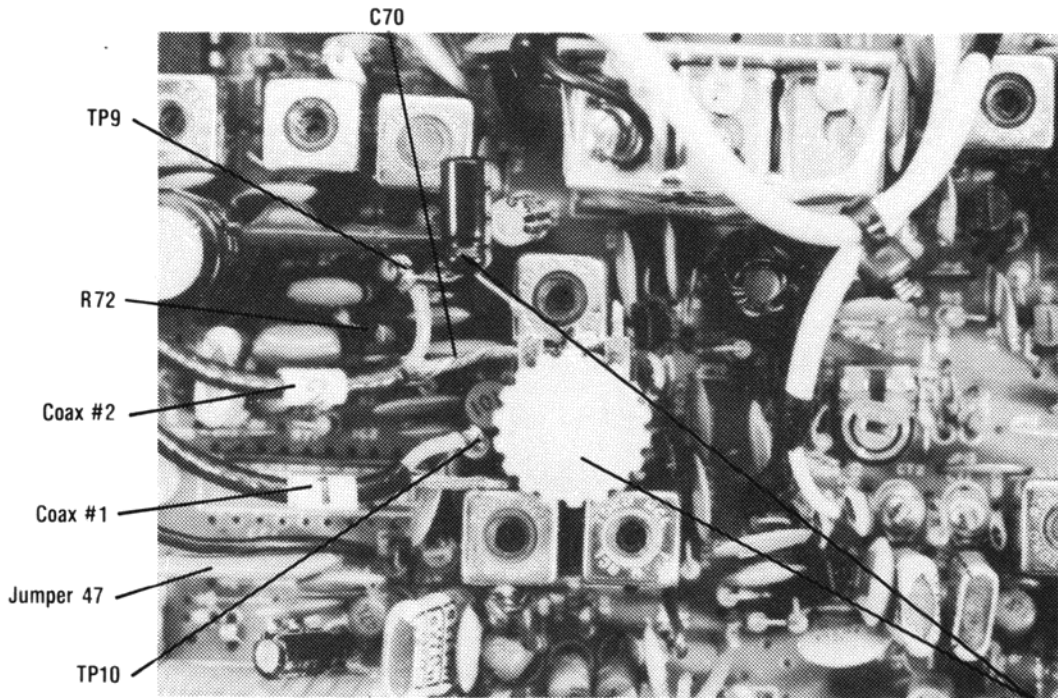

Fig. 2 — Location of Test Points
5. Connect the shields of Coax #1 and Coax #2 to ground. *See Fig. 2.*
6. Connect the center lead of Coax #1 to TP-10. *See Fig. 2.*
7. Connect the center of Coax #2 to TP-9. *See Fig. 2.*
8. Loop Filter installation: Locate the 10K trimpot and 10uf capacitor supplied with the 400. Solder the wiper of the trimpot to ground (*see Fig. 2*). Install the 10uf capacitor between one end of the trimpot and TP-9. Observe polarity; the negative (–) lead of the capacitor must connect to the trimpot. Remember to keep leads as short as possible during this procedure. (See page 6)
11. Remove C70 or equivalent from the radio. (Fig. 2)
- Cut the jumper wire (see Fig. 2, labeled #47), located behind the channel selector to comply with FCC regulations.
- Reference installation to Figs. 4 & 5 rather than Figs. 2 & 3.